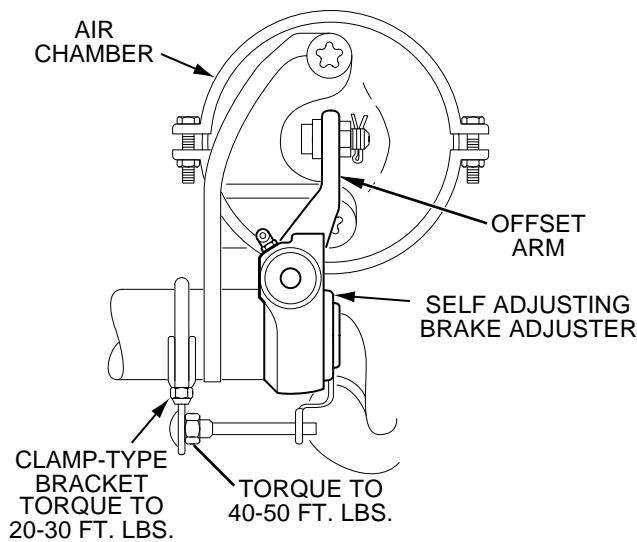

Figure 3 Offset (Clamp-Type Bracket) Installation
- Offset brake adjuster using clamp-type bracket (See Figure 3.)